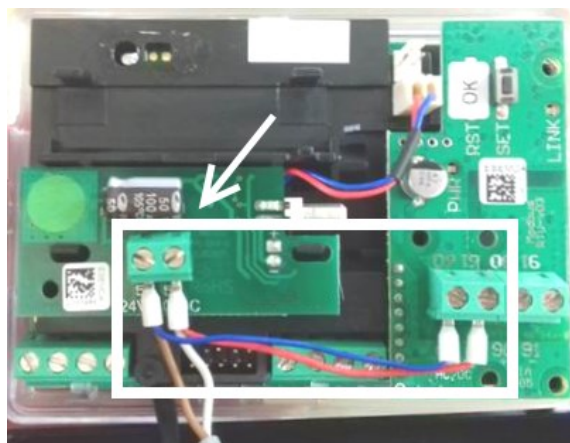

Fig. 5.5 Connecting Modbus/BACnet module to external power supply module.
5. Install the external power supply module according to procedure in p. 5.2.6. and connect additional power cable from external power supply module terminals to the power supply terminals on the Modbus/BACnet module (see Fig. 5.5). The connection is bipolar. For full terminal assignment of the external power supply module see Table 10.2.